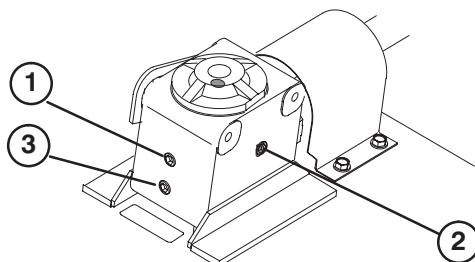

Figure 25
5. Remove drain plug from end of gear box (Fig. 25) and tip gear box assembly allowing lubricant to drain from gear box.